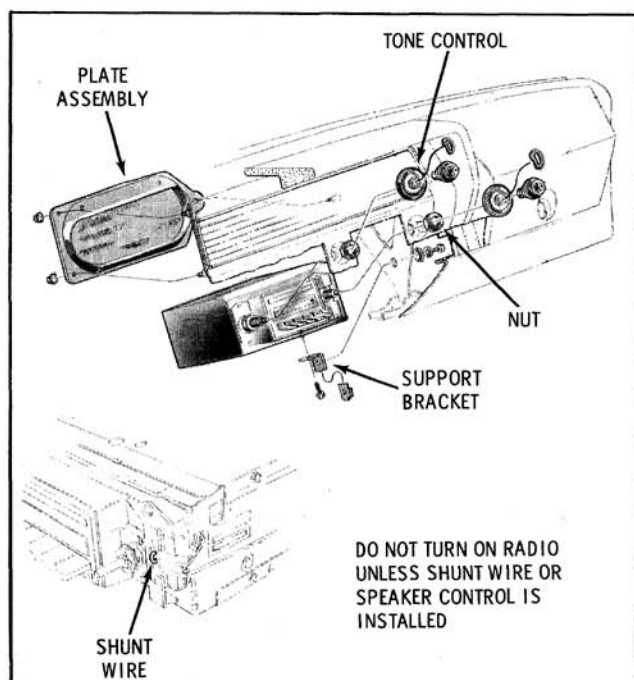

Fig. 12-127 Radio Mounting
5. While supporting radio, remove both nuts securing radio to instrument panel. (Fig. 12-127)
The speaker is attached to the instrument panel by three nuts as illustrated in Figs. 12-127 and 12-128. The speaker can be removed for service without removing the receiver.
NOTE: If car is equipped with rear seat speaker, install a shunt wire as illustrated in Fig. 12-127. If radio is operated without the shunt wire, damage will result to the output power transistor.